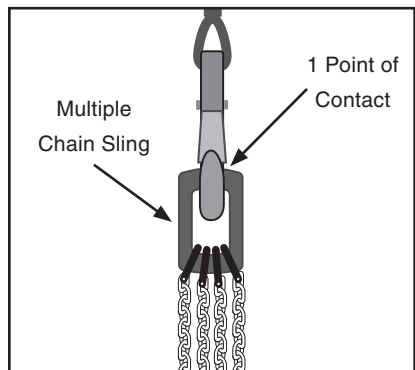

Figure 5. Example of proper hardware.
- DO NOT attach multiple chains or harnesses directly to the hook. Only one point of contact should be used on the hook and shackle to lessen the chance of the load falling and to allow proper load alignment (**Figure 5**).